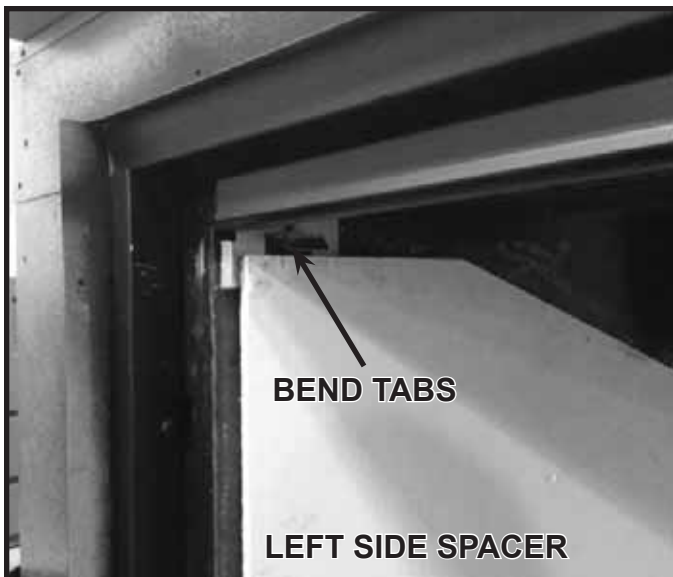

Figure 11.12 Left Refractory Tab
6. Using a flat screwdriver, straighten hand bends on the refractory tabs at the top of the side spacers (left and right) to allow the side spacers to be moved forward about three inches. See Figure 11.12.